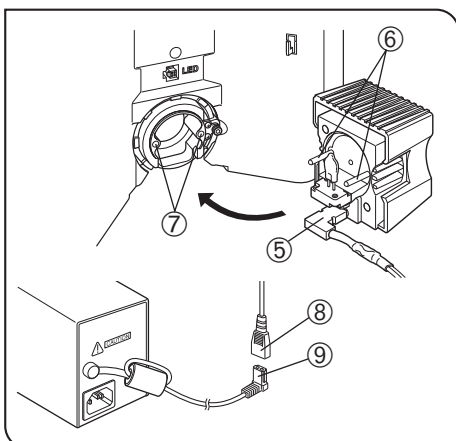

Fig. 38
2. Insert the lamp cable ⑤ in the direction shown in the figure 38.
3. Aligning the guide pins ⑥ with the guide pin holes ⑦ at the rear of the microscope frame, gently push the lamp socket all the way into place.
#### Connecting the Lamp Cable (Fig. 38)